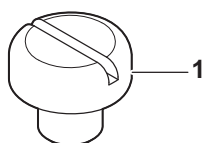

Figure 24
15. Install the new O-ring (2, **Figure 24**) to the plug (1, **Figure 24**).